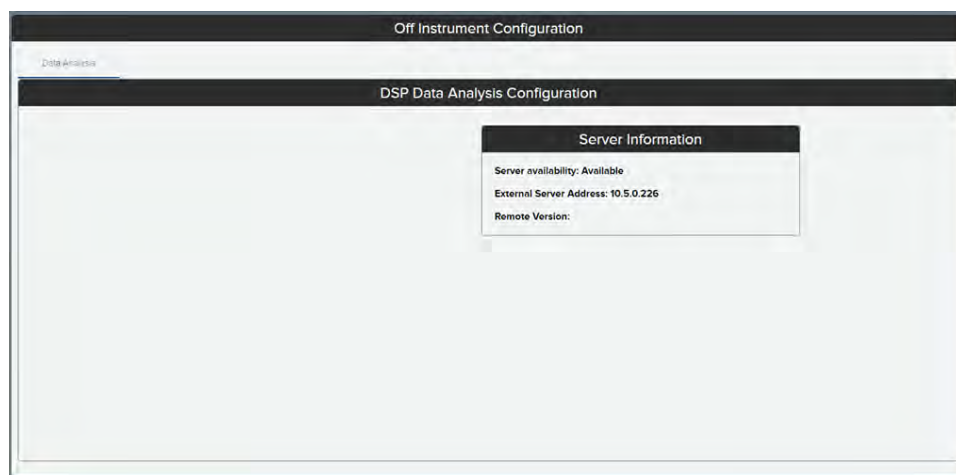

Figure 70: Off Instrument Data Analysis server information window
7. The server availability and address will be displayed (see Figure 70). If this information does not appear, refresh the screen.